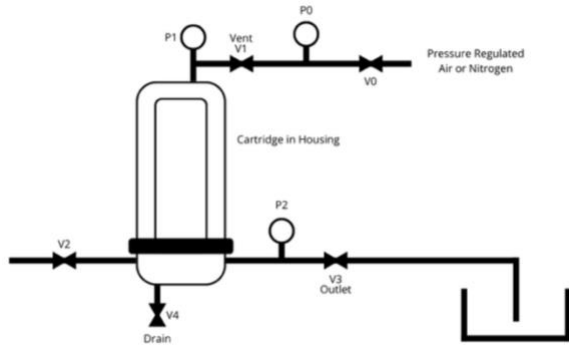

Figure 1b: Manual Cartridge Water Intrusion Test
8. Attach a regulated air or nitrogen source to the vent line (Figure 1b).